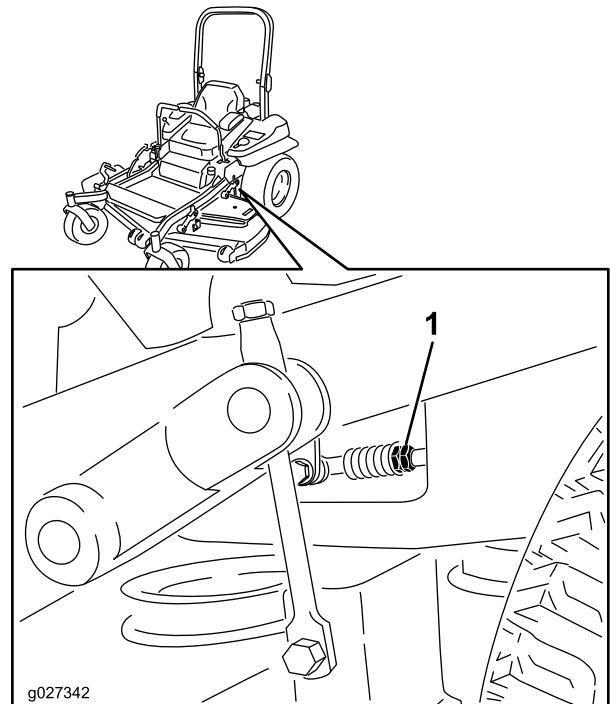

Figure 81
8. Adjust the pump control rod lengths by rotating the double nuts on the rod in the appropriate direction until the wheels slightly creep in reverse (Figure 81).